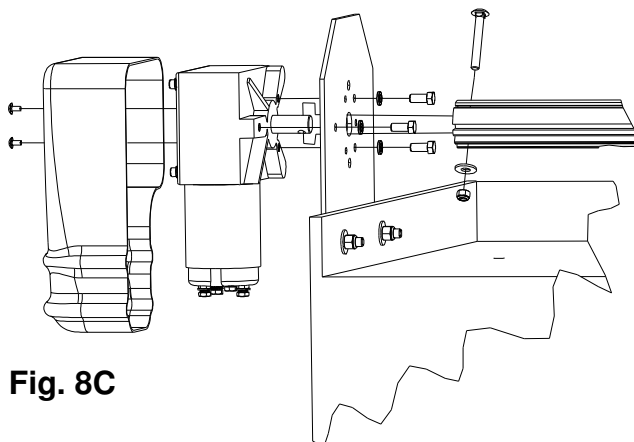
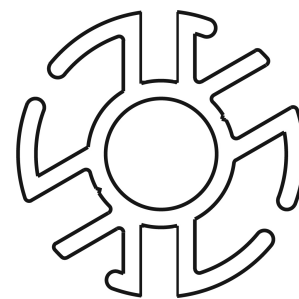

Fig. 8C
Fig. 8D End view of roller bar
1. Mount the motor to the bearing plate, cab shield or housing (See fig. 8C, bearing plate option shown).
4. Drill a 1/2" dia. hole, 3/4" from the end of the rollerbar you just cut. Start the hole in one of the smooth-sided slots (see fig 8D). Slide one end of the rollerbar over the motor output shaft and secure with a 5/16" carriage bolt, washer, and nut. (See fig. 8C)